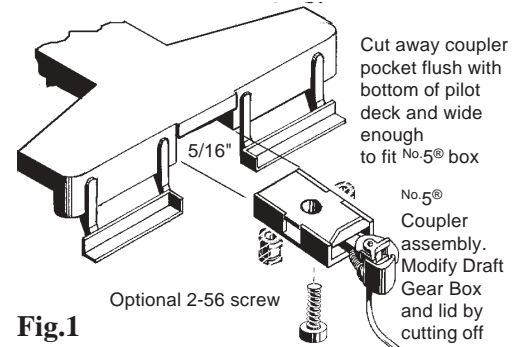

Fig.1
2. Modify the pilot coupler opening by removing sides and bottom completely. Make opening 5/16" wide. Remove top of pocket until it is flush and level with bottom side of pilot deck. See Fig.1.
3. Assemble the No.5® Coupler with the Centering spring on top. Glue box and lid together with a small amount of plastic compatible cement. After glue has dried, modify the No.5® box and lid by cutting off the side mounting lugs. See Fig.1.